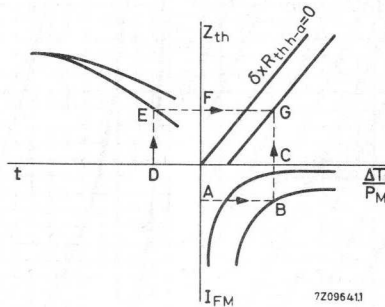

Fig. 1
Fig. 1 is used to illustrate how the graph on page 6 should be used.
- Starting at a point A in Fig. 1 on the  $I_{FM}$  axis trace horizontally until the appropriate  $\Delta T/P_M$  curve is reached at point B.